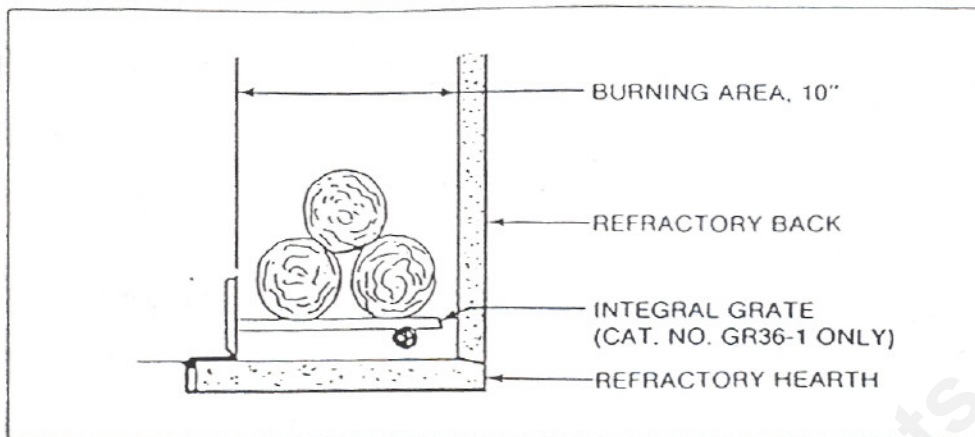

Figure 23
E. GRATE. The factory installed Integral Grate must be used to hold the logs from falling out of an open fireplace and to allow air to pass between the burning logs. It is important to keep the fire off the hearth and to allow the ashes to collect beneath the fire, thereby forming a layer of additional heat protection. See Figure 23. Use only Catalog Number GR36-1 Integral Grate for replacement.
- H. **SETTING THE FIRE.** Check the flue damper to be sure it is fully open. Place crumpled or twisted paper under the Grate. Loosely arrange kindling or small pieces of wood to form a layer above the paper. Place three logs in a rough pyramid as shown in Figure 23, being sure to allow free air space between the logs. Small sticks of wood may be used to separate the logs. **NOTE:** When heated the first time, the temperature of the fireplace must be raised gradually, to prevent moisture within the refractory from causing cracks, and to allow the binders in the insulation to dissipate.